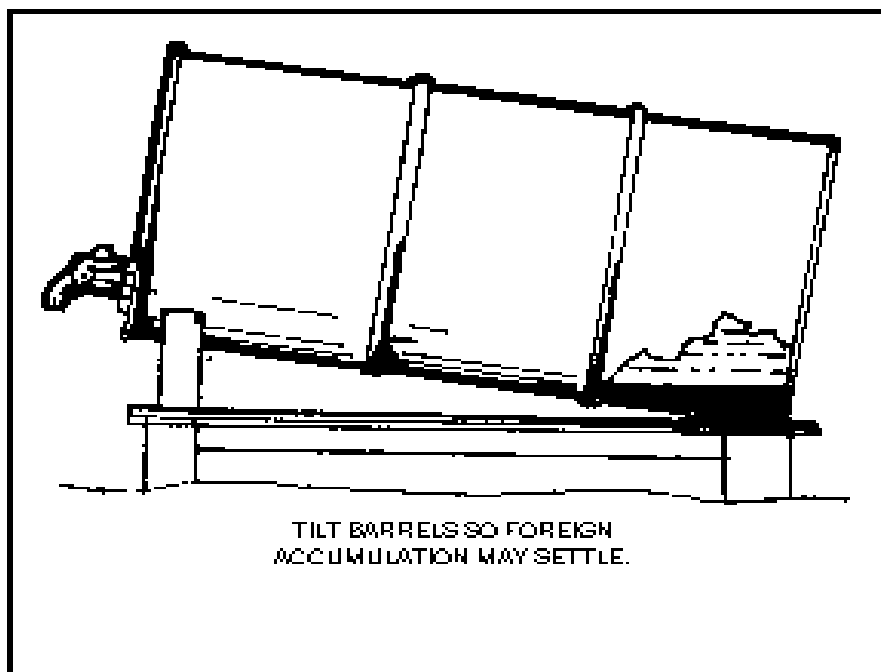

Figure 3-4. POL barrel storage
- Store barrels with outlet end slightly higher than the other end to allow sediment and water to settle out (Figure 3-4). Upright storage of barrels should be avoided to keep water and snow from accumulating. The last few gallons that remain in the barrel should be dumped into collecting barrels where foreign accumulation can settle and the usable fuel can be salvaged. Make sure all containers are thoroughly clean and rust-free before storing fuel in them. When barrels are stored, they must have secondary containment to prevent spillage to the ground.